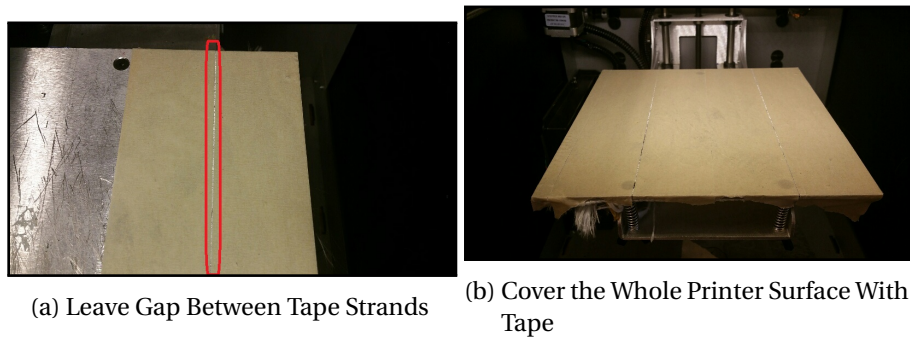

Figure 2.5: Cover Printer Surface With Tape
11. Cover the entirety of the printer surface with tape, leaving a gap between each strand, as shown in Figure 2.5.